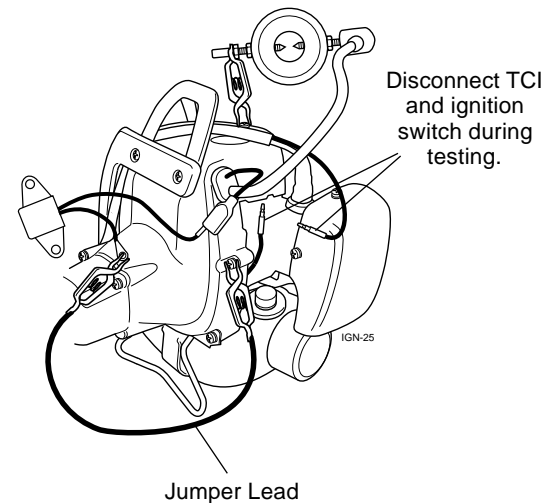

Figure 5.13 Testing the TCI unit by substitution (2-piece ignitions only).
STEP 6. Test ignition unit (two-piece ignition) by substitution. (Figure 5.13).